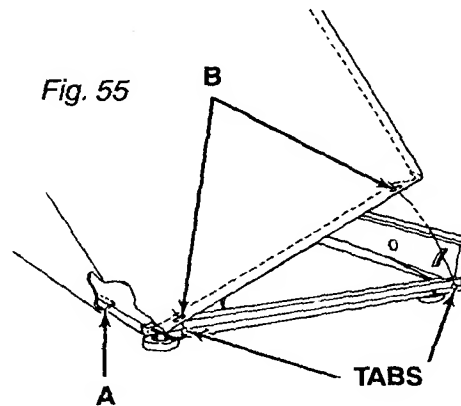

Fig. 55
2. The cabinet front flange must be under the washer base. (Fig. 55-A)
3. Holes in the cabinet side flange must be placed over the tabs in the washer base. (Fig. 55-B)